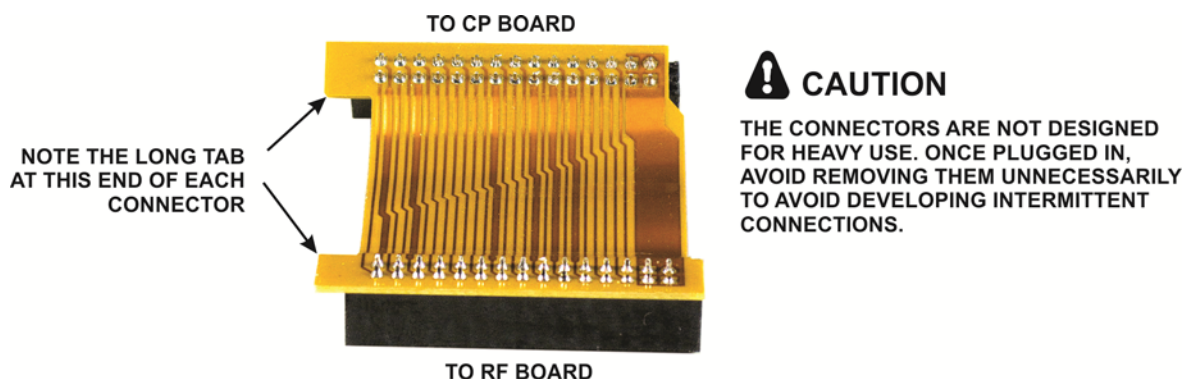

Figure 48. Flex Cable.
- Separate the KX3 top and bottom covers. Set the bottom cover on its feet and locate the flex cable that will join the RF board to the CP board (see Figure 48).